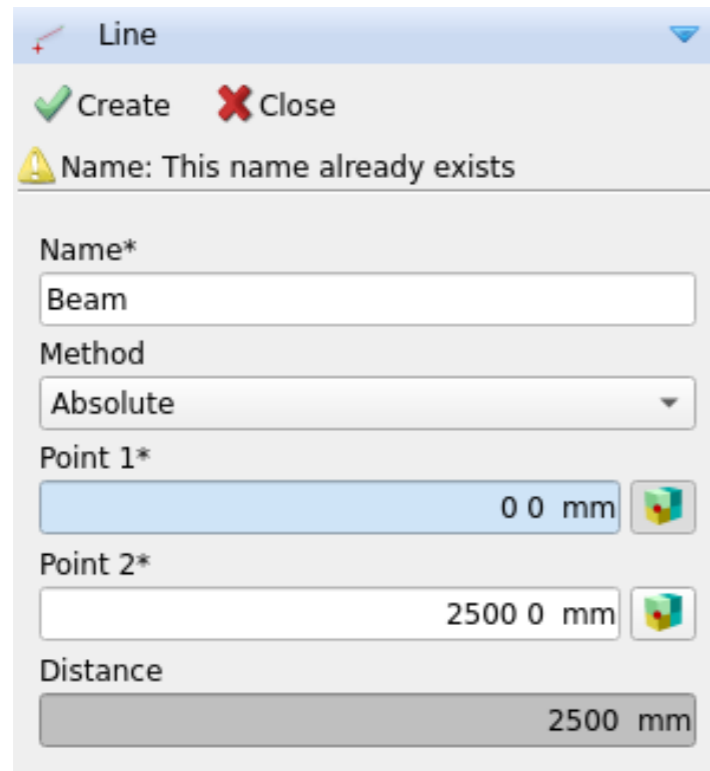

Figure 6: Add line
**Main menu** → Geometry → Create → Line  [Fig. 6]